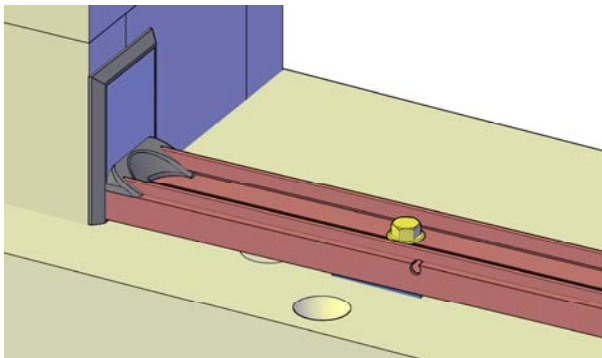

Fig. 9 - Viewed from Building Exterior
6) Apply a bead of silicone around the perimeter of the end dam to establish a seal against the wall substrate. Also apply a generous bead of silicone along the intersection of sub sill and end dam. Tool as necessary to ensure a water tight seal. The illustrations in this manual show CMU substrate. While the actual wall substrate at your project may differ, the procedure remains the same. See Fig. 9 & 10